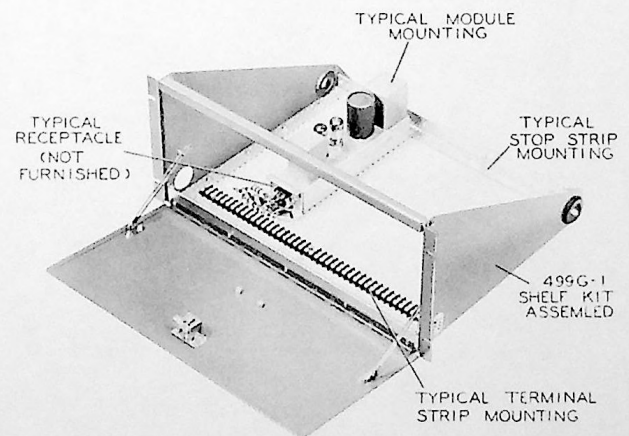

Figure 2-4. 499G-1 Rack Mounting Shelf, Complete Assembly
g. Mount the terminal strip assembly. This may be mounted anywhere, but for most purposes, it is best to mount it just inside the front door or just inside the rear lip. See figure 2-4. Bolt in place with three each of items N, Z, P, and T. Insert the bolts through the plate from the top and through the fifth line of holes from the front or back of the shelf bottom.
i. The stop strip, item AK, can be attached to the shelf after the modules which are to be mounted on the 499G-1 Rack Mounting Shelf have been added. This strip presses against the rear of the modules after they are plugged in to prevent them from working out. See figure 2-4. Bolt in place with four each of items N, Z, P, and T.